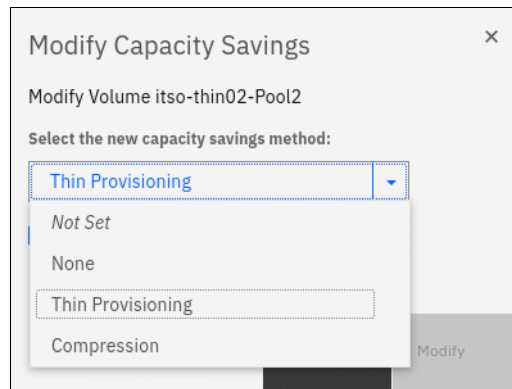

Figure 6-48 Capacity savings options for a volume
2. Select the capacity savings option that you want, as shown in Figure 6-48.